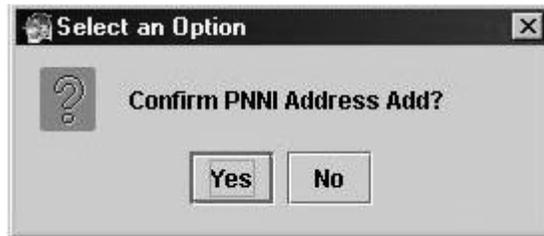

Figure 8-11: Confirm Add New Interior IISP Address Dialog
7. Click **NEW**. The Select an Option dialog displays. See Figure 8-11.